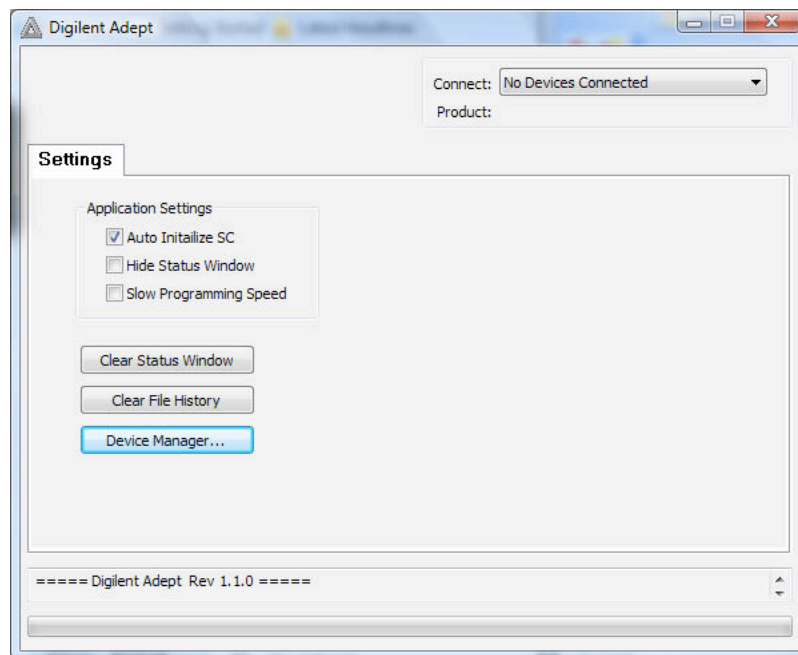

Figure 17. Startup Window of Digilent Adept Software
- Download and install the software tool **Adept** from the course website. The Adept software startup window is shown in Figure 17.